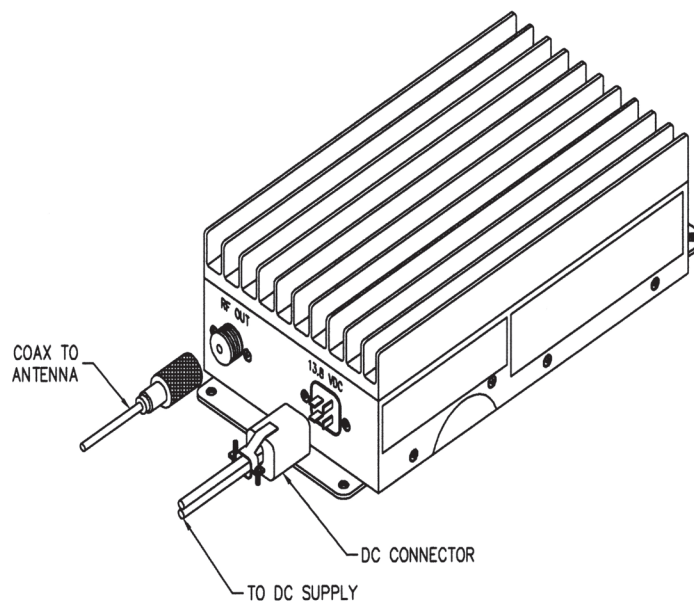

Figure 4. Antenna connection
3. Connect the antenna to the **"RF OUT"** terminal with a 50Ω coaxial cable and a PL-259 UHF male connector according to figure 4.